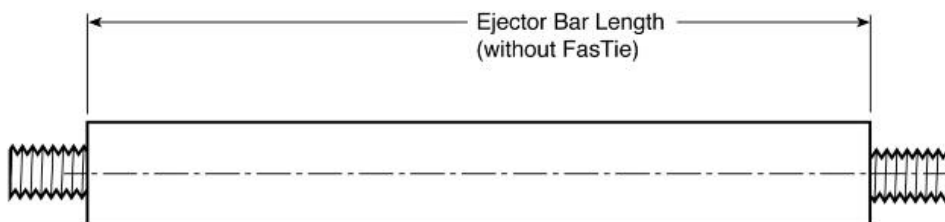

Figure 1
- Identify length of current solid ejector bar (*Figure 1*)